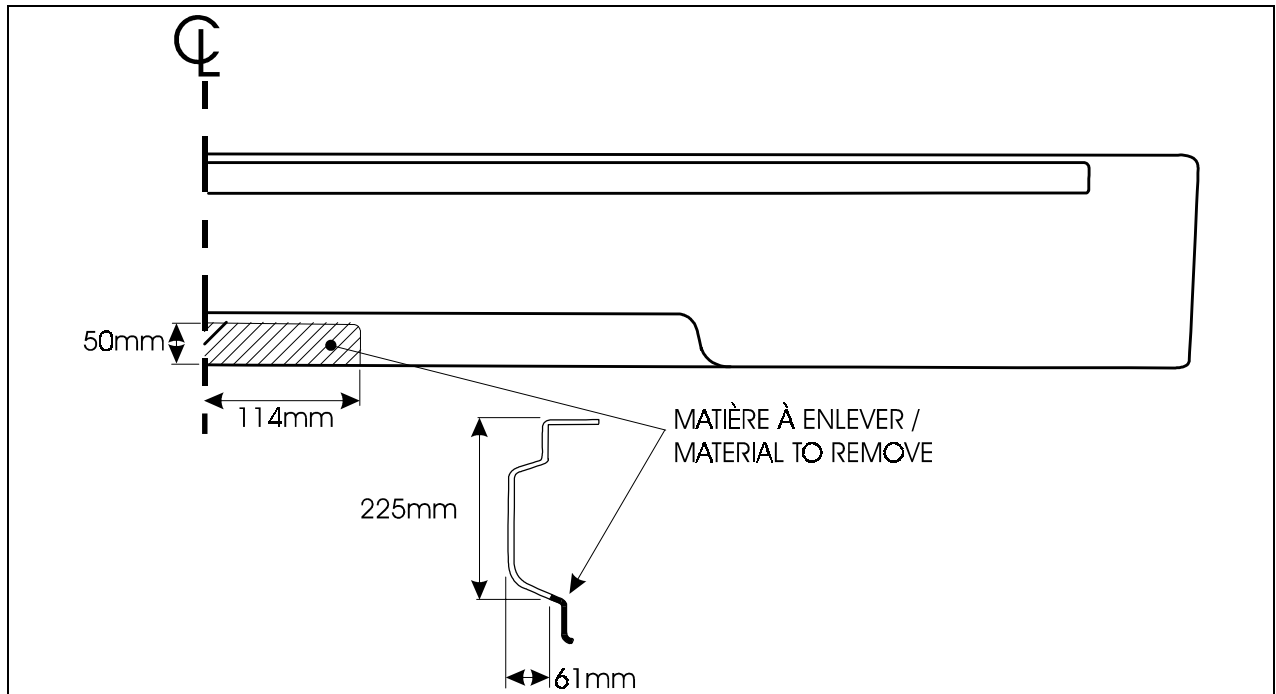

FIGURE 9 : CUTTING OF REAR BUMPER FOR VIP SERIES VEHICLES.
24. Proceed to the cutting of the rear bumper according to figures 9 & 10 before installing the rear bumper.